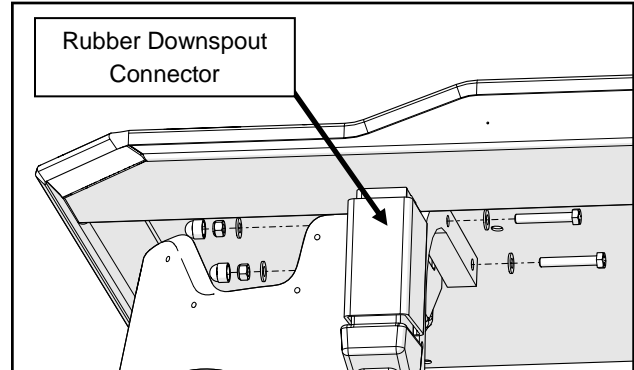

Fig. 2.3 (Install Rear Bolts)
- 2.3 Replace the rubber downspout connectors, then install fasteners through new roof bracket, then vehicle frame tube, and finally cab rear mounts. Leave bolts loose. Figure 2.3.